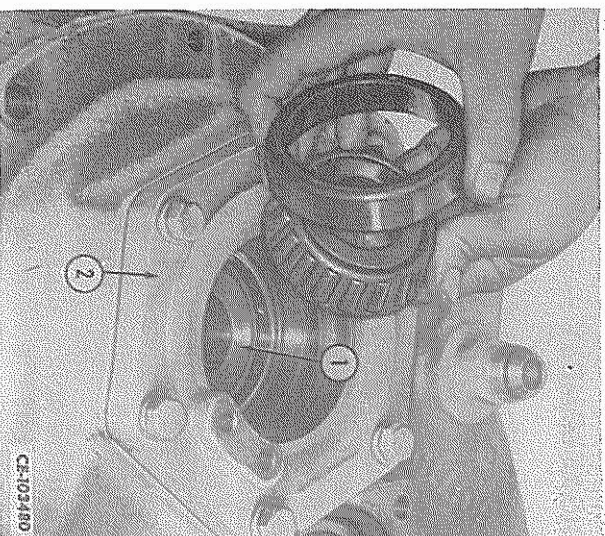
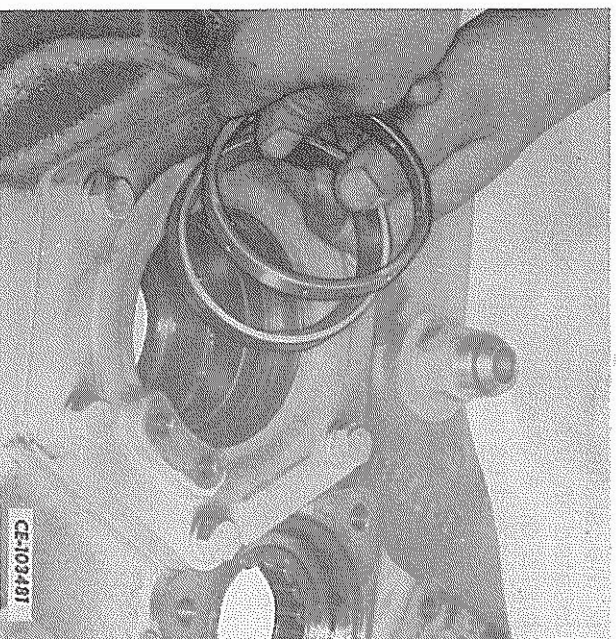

FIG. 30 — Removing the Pinion Shaft Front Bearing Outer Cup and Cone
FIG. 31 — Removing the Pinion Shaft Front Bearing Cup Spacer and Inner Cup
20. Remove the pinion shaft front bearing assembly from the bearing cage. Lift the bearing outer cup and cone from the bearing cage (2, Fig. 30). Remove the bearing inner cone (1, Fig. 30). Then remove the bearing cup spacer and bearing inner cup from the bearing cage (Fig. 31).